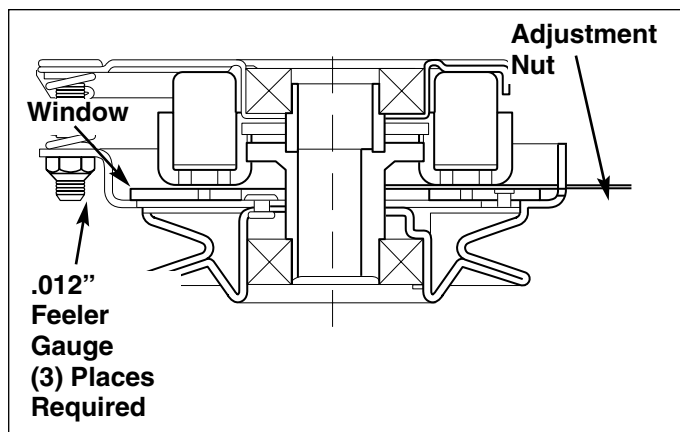

Figure 20. Feeler Gauge Position
2. See Figure 20. Note the position of the 3 adjustment windows (A) in the side of the brake plate and the nylock adjustment nuts (B).
3. Insert a .012" feeler gauge through each window, positioning the gauge between the rotor face and the armature face as shown in Figure 20.